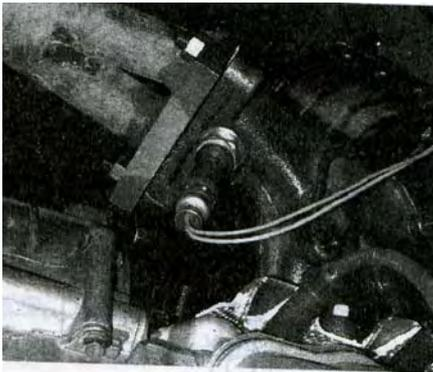
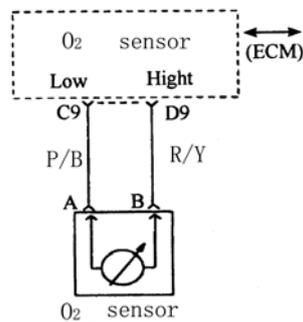

Fig. 4-28
Fig. 4-29
6) Cam position sensor(Fig. 4-28, Fig. 4-29)